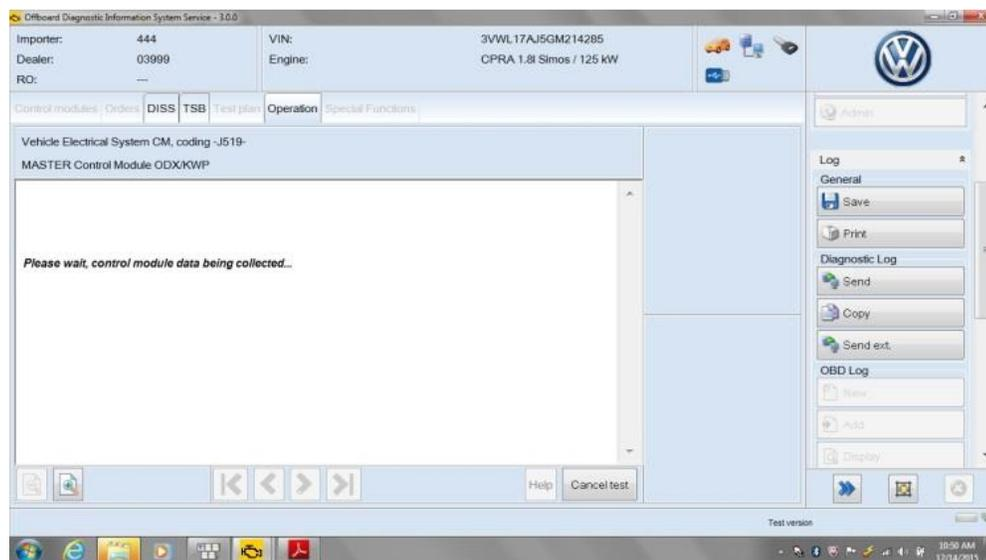

Figure 7
- Please wait while scan tool collects data. (Figure 7)